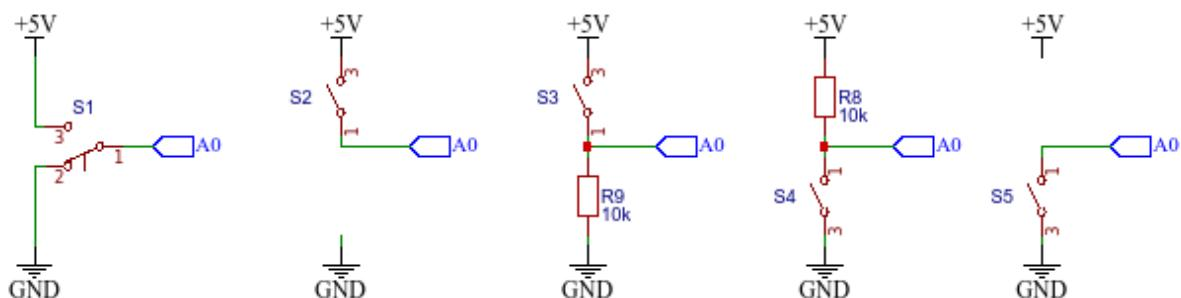

Figure 6.1: Different options of wiring the bush-button-switch.
1. Connect the push-button-switch according to first diagram on fig. 6.1 and test the program prog. example 6.2
2. Try to connect the bush-button-switch according to second diagram on fig. 6.1
Try to understand why this setup is not working. And test all other options in fig. 6.1
- Solve the problem by constructing a voltage divider with pull-down resistor (third diagram on fig. 6.1).
- Change the setup of PBSW and resistor to a pull-up setup (fourth diagram on fig. 6.1). What is changed?
- Enable internal pull-up resistor (and remove external one - fifth diagram on fig. 6.1).